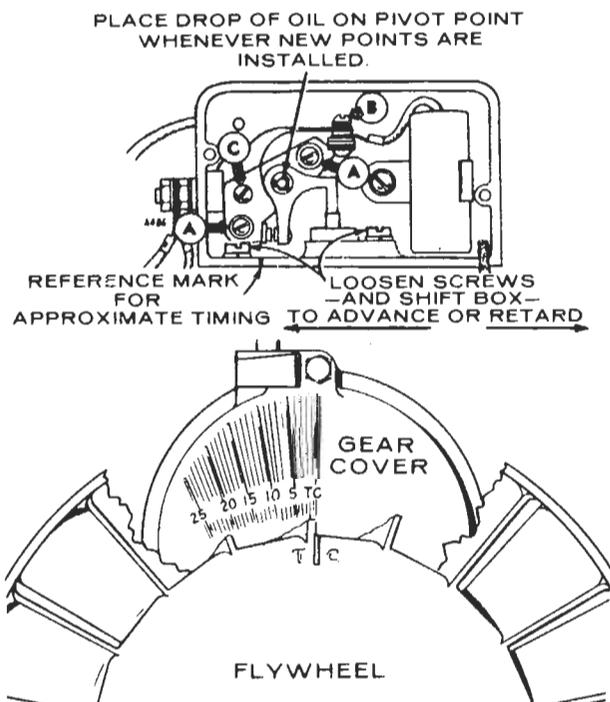

FIGURE 35. IGNITION TIMING
3. Remove the two mounting screws (A) and pull the points out of the box just far enough so screw (B) can be removed. See Figure 35. Replace points with a new set but do not completely tighten mounting screws (A).
4. Rotate the engine clockwise (facing flywheel) by hand until points are fully open. Turn screw (C) until point gap measures .020 inch (0.51 mm) with a flat thickness gauge.
Each time new breaker points are installed, place a drop of oil on the point's pivot point (Figure 35).